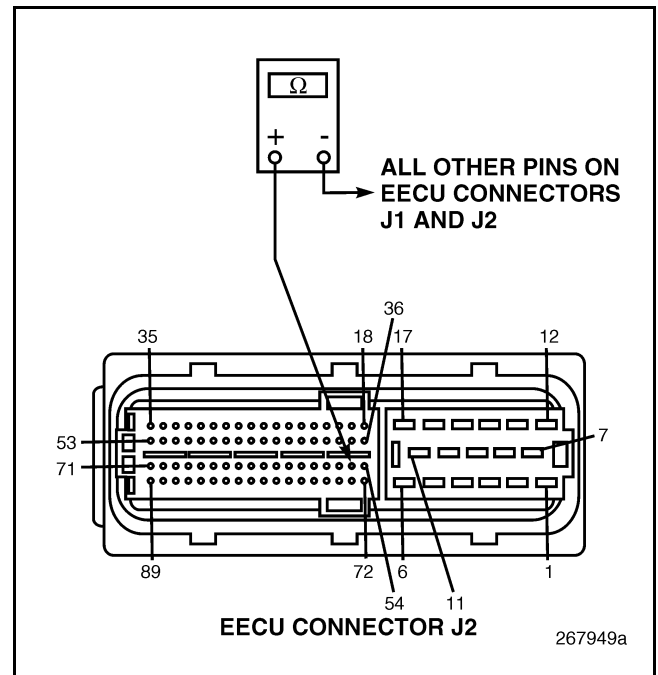

Figure 371
3. Check for continuity between EECU connector J2 pin 55 and all other pins on EECU connectors J1 and J2 (see Figure 371).